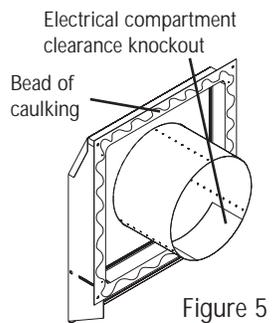

Figure 5
10. If the Wall is less than 8" thick remove one or more of the electrical compartment clearance knockouts. (fig 5)